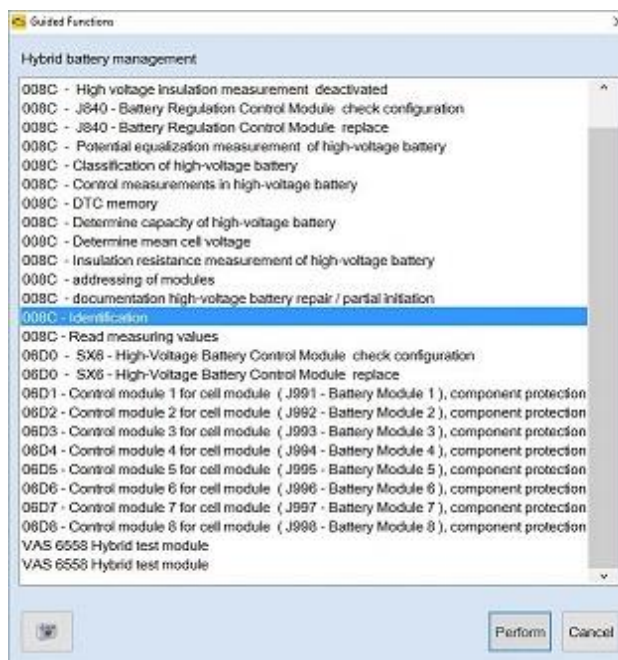

Figure 3. Guided Functions Menu.
2. In the Guided Functions menu select 008C – Identification and click “Perform” (Figure 3).